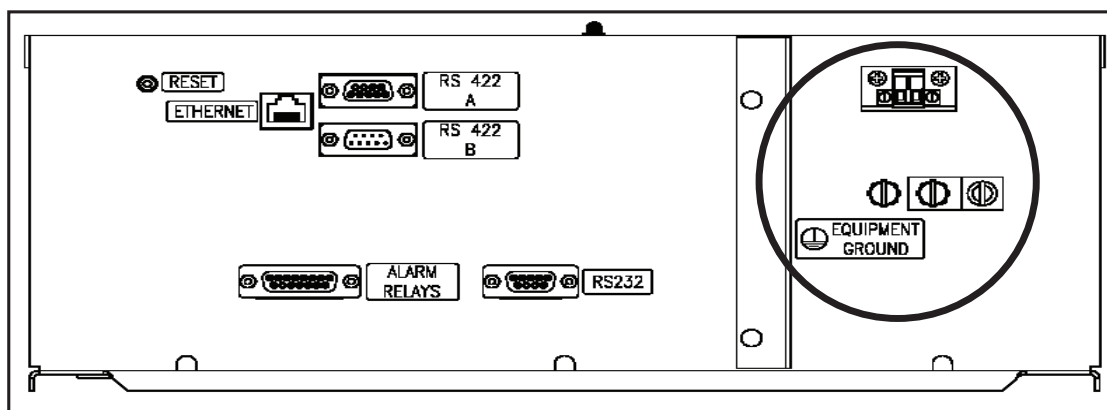

FIGURE 5. Base of NEMA enclosure.
6. At this time, connect the power and ground wires to their respective terminal lugs inside the enclosure. Refer to Figure 5. Once the power and ground wires have been connected securely inside the enclosure, seal the access hole so that no ambient air can get inside the enclosure. If desired, first seal the hole and then connect the wires.